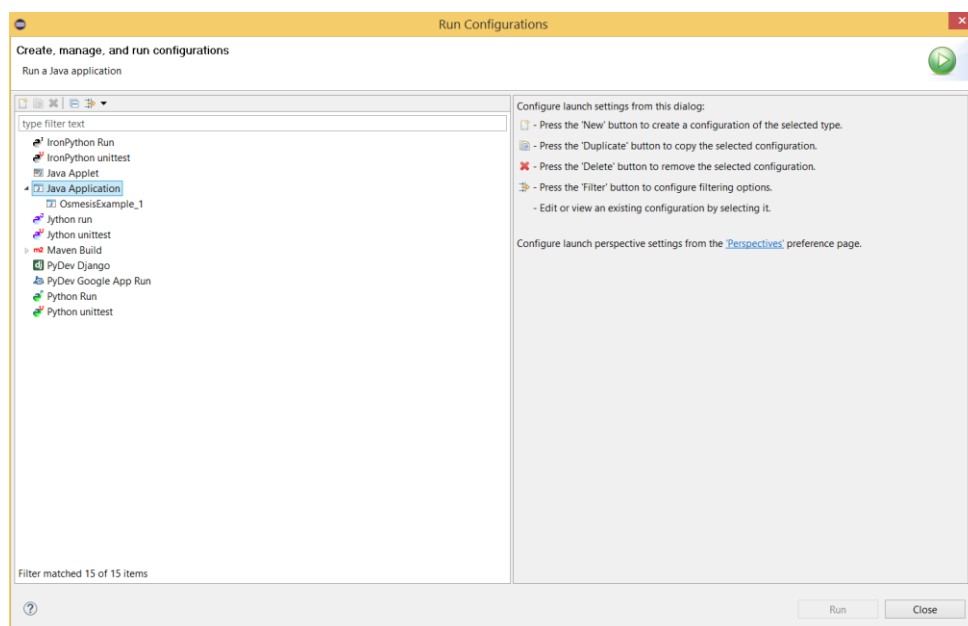

Figure 4.5
**Step 2:** Double click on Java Application and Eclipse will create the first example automatically (see Figure 4.5).